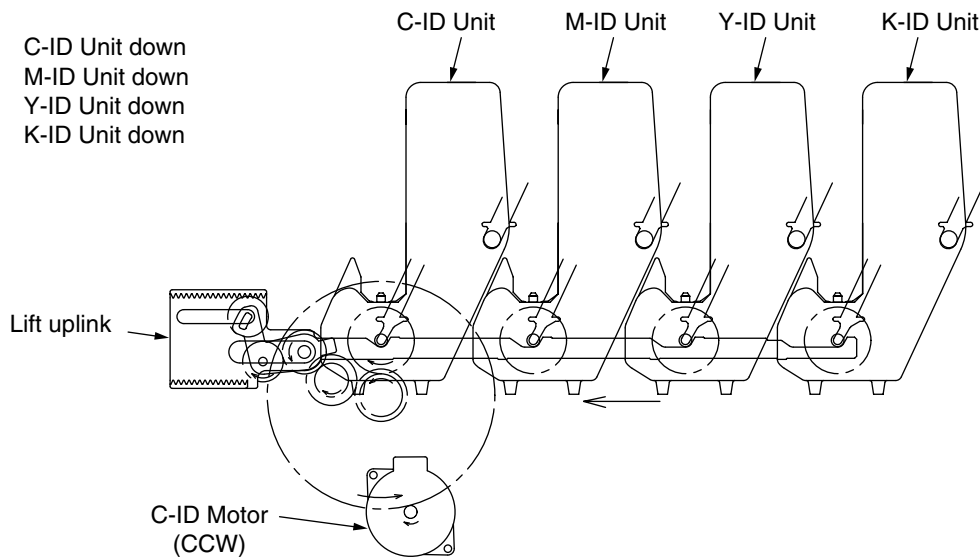

Figure 2-6
2. Figure 2-6 indicates ID unit operations during color printing. When the C-ID motor rotates (CCW), the lift uplink slides to the left, and as indicated in Figure 2-6, each ID unit moves DOWN. The printer is now ready for color printing.